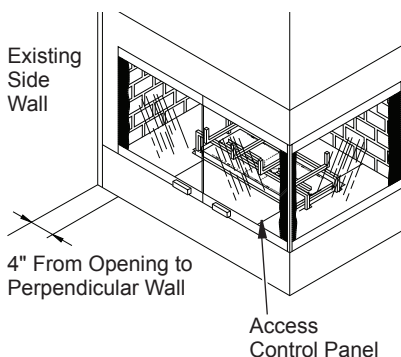

Figure 2 - Typical Two Sided Fireplace Installation
3. A location that avoids the cutting of joists or roof rafters will make installation easier. Figure 2 shows a typical two-sided fireplace installation.